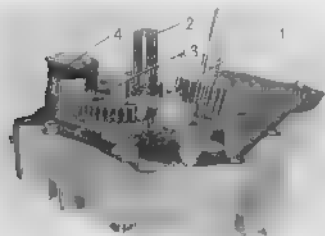

Fig. 3.96 Removing the kick starter spindle
6. Pull out the kick starter spindle. ① (Fig. 3.96)